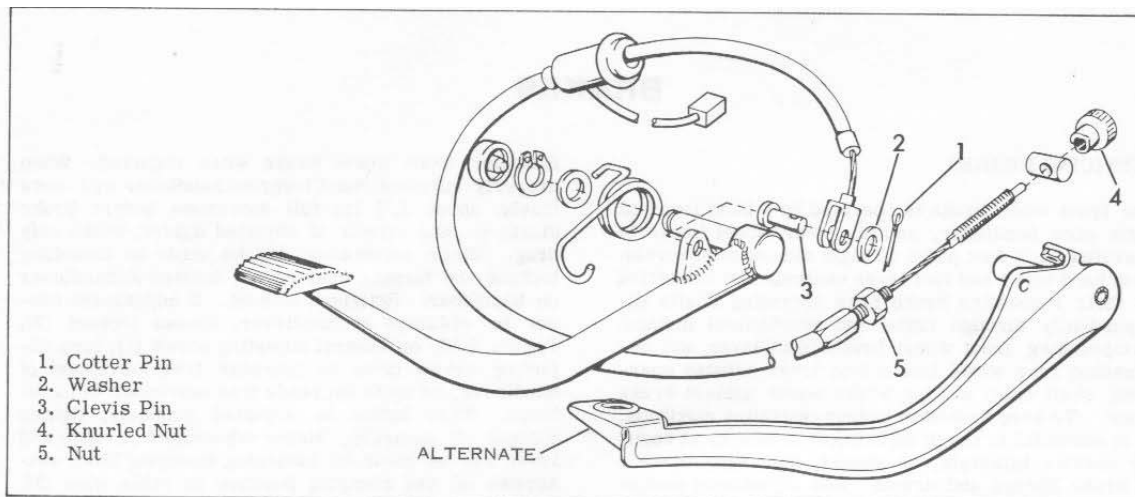

Figure 2.32. Rear Brake
Disconnect wire to taillight. Disconnect cable end at foot lever by removing cotter pin (1), Figure 2.32, washer (2) and clevis pin (3). Pull this end of cable free of frame.